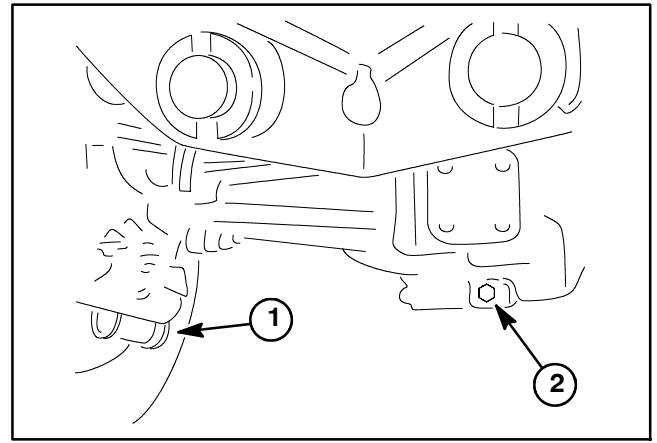
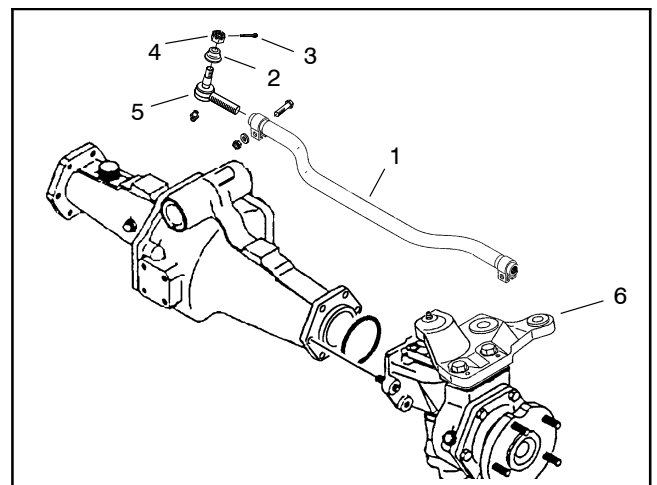
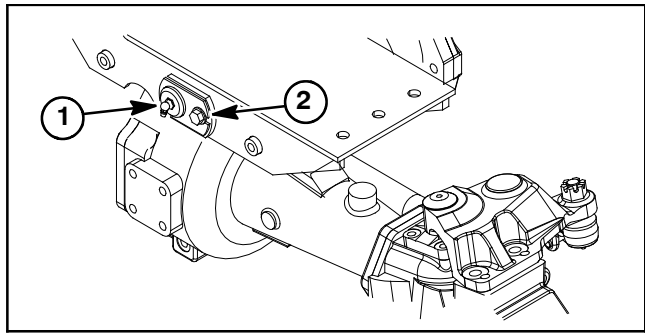

Figure 13
Figure 15
Figure 16
2. Drain oil from rear axle and axle gearbox (Figs. 13 and 14).
7. Remove cap screws and lock washers that secure bulkhead mount plate (item 15) to rear axle. Separate mount plate from rear axle and support it along with attached hydraulic hoses and tubes to allow the rear axle to be lowered from machine.
8. If required, remove tie rod ends from steering arms on rear axle (Fig. 15). Remove the cotter pins and castle nuts from the tie rod ball joints. Use a ball joint fork and remove the tie rod ends from the axle steering arms.
9. Support rear axle to prevent it from falling. Remove six (6) cap screws, flat washers and lock nuts that secure rear axle mount to machine frame. Lower rear axle and rear axle mount from machine.
10. Remove lock nut and washer from rear axle pin that attaches rear axle to rear axle mount. Remove washer head screw that secures flange of rear axle pin to axle mount (Fig. 16).
11. Remove rear axle pin from rear axle and mount. Separate rear axle mount from rear axle. Note location of thrust washers (items 28 and 29) on both ends of axle mounting boss.
B. Secure pivot pin to axle mount with washer head screw (Fig. 16).
4. Secure rear axle mount to frame with six (6) cap screws, flat washers and lock nuts.
5. If removed, install the tie rod to rear axle (Fig. 15). Tighten ball joint castle nuts and install new cotter pins.
6. Position bulkhead mount plate (item 15) with attached hydraulic hoses and tubes to rear axle. Secure mount plate to axle with cap screws and lock washers.